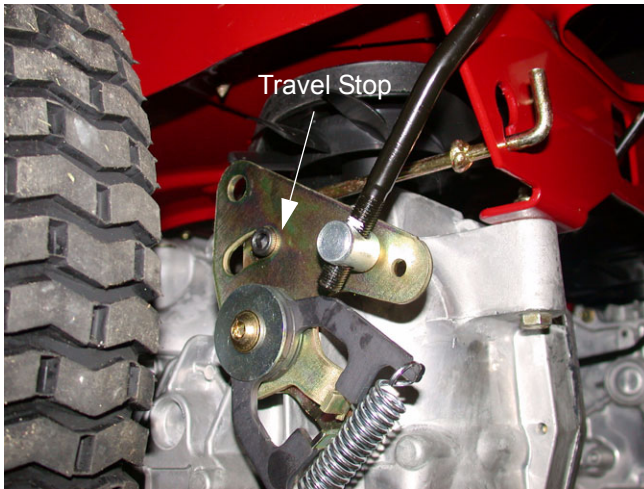

Figure 10.11
10.11. The socket head cap screws that secure the neutral return assemblies to the EZTs act as a travel stop at the EZT end of the linkage. The lap bar pivot brackets should contact the stop screws before the socket head cap screw contacts the end of the slot on the neutral bracket. See Figure 10.11.